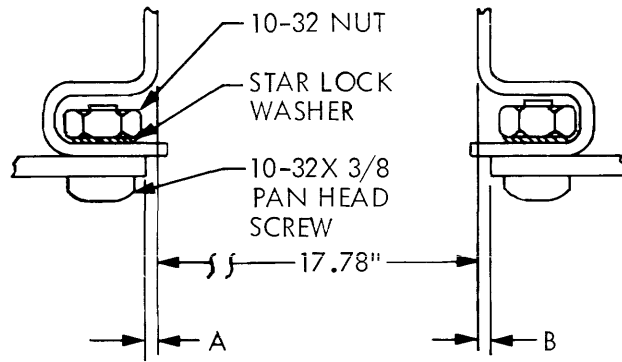

Figure 2-7. Inside Measurement Between Slide Brackets
- (2) Place a star lockwasher and 10-32 nut on each of the three screws. The nuts should be started onto the screw only far enough to hold. The mounting bracket will be secured between the back of the EIA mounting surface and the lockwasher.
- (3) Install the right and left brackets to the rails and tighten the 10-32 nuts sufficiently to hold them in place.
- (4) Determine that the bracket surface adjacent to the rail is parallel to the rail and to the side of the cabinet.
- (5) Establish that the measurement between the brackets is 45.14 mm (17.78 inches) as shown in Figure 2-7. Tighten the 10-32 nuts on the right and left brackets. If this measurement is not held, the bezel may not fit between the trim molding on the cabinet. Note that dimension 'A' must equal dimension 'B'.
*Steps (1) through (5) must be repeated when the rear brackets are installed.*
- (6) By inspection, determine which slide assembly and mounting holes will be used for the installation.
- (7) Install the slide assemblies to the brackets using 8-32 × 3/8-inch Phillips screws; tighten hardware finger tight.
- (8) Extend the small slide bar as far forward as possible to expose two Allen-head stop screws located in the body of the lower slide of the slide assembly.
- (9) Loosen the Allen-head stop screws so that 4 or 5 threads are showing. Move each small slide bar to the extreme rear position (all the way out the rear of the cabinet) to ensure that they do not become disengaged from the main slide assembly.
- (10) Remove the small slide bar from the main slide assembly by moving the small slides all the way out of the front of the cabinet.
- (11) Install restraining blocks to each of the rear rails with 10-32 × 3/8-inch Phillips button-head screws. Position each restraining block so that the slide member will be prevented from projecting beyond the rear of the cabinet.